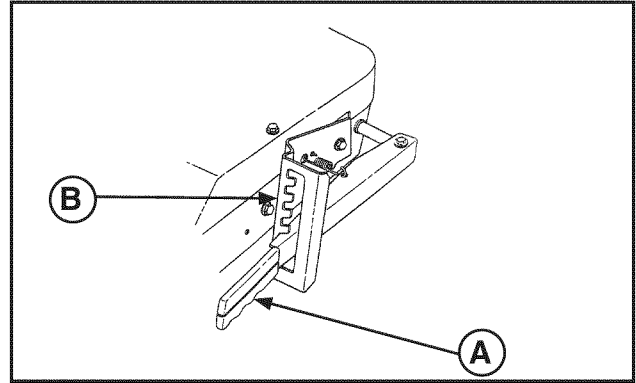

FIGURE 8
1. Adjust the cutting height by raising or lowering the deck lift lever (A, Figure 8) into the desired height of cut notch (B).